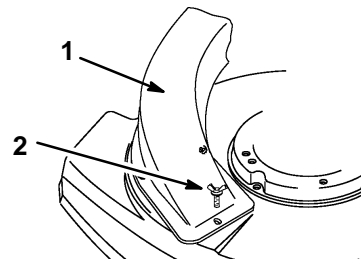

Figure 35
6. Push the key hole slots on the chute down over the two shoulder bolts on the mower housing and slide the chute clockwise to lock it in place (Fig. 35).
7. Secure with the wing screw (Fig. 35).